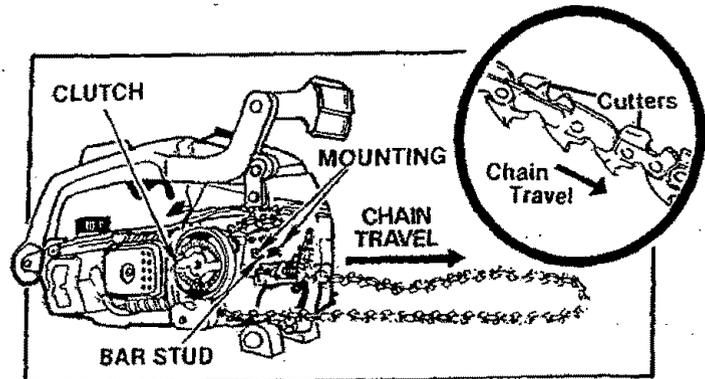

Figure 7
- Hold chain with cutters facing as shown in Figure 7.
- Place chain over and behind the clutch drum, onto the sprocket. Figure 7.
- Fit the adjusting pin into the round hole below the large slot; fit the large slot on the mounts on either side of the Bar Stud. Figures 7 and 9.